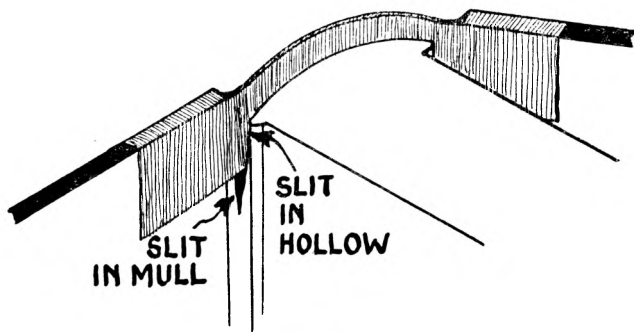

Fig. 86
31. Turn in the cloth over the hollow back and down into the slits in the mull and then over the edges of the boards, fig. 86. Turn the book upside down and repeat the